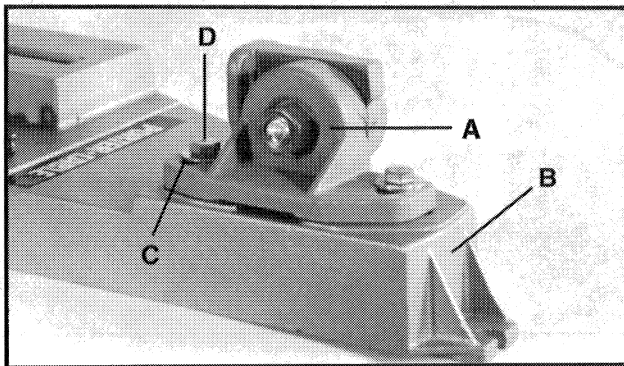

Fig. 2
1. Set the hinge assembly (A) on base (B) Fig. 2, so that the center of the elongated holes in the hinge assembly mounting bracket are over the center of the elongated holes in the base.
2. Install the two $\frac{3}{8}$ " I.D. x 1" O.D. washers (C) Fig. 2, on the two $\frac{3}{8}$ "-16 x 1 $\frac{1}{2}$ " long bolts (D) and insert the bolts through hinge assembly (A) and base (B), as shown. Thread the bolts into the two $\frac{3}{8}$ "-16 square nuts which are to be located in grooves in underside of base (B) beneath the elongated holes and snug up bolts (D) Fig. 2.